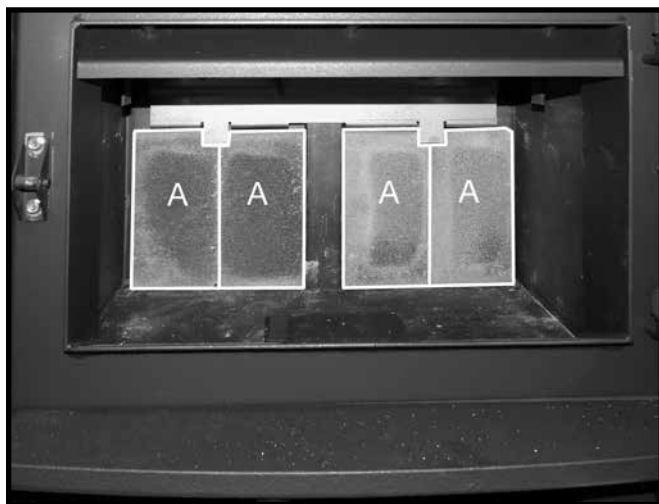

Figure 29: Remaining rear wall firebricks in place.
3. Repeat steps 1 & 2 for the placement of the other "A" firebricks on the rear wall (Figure 29).